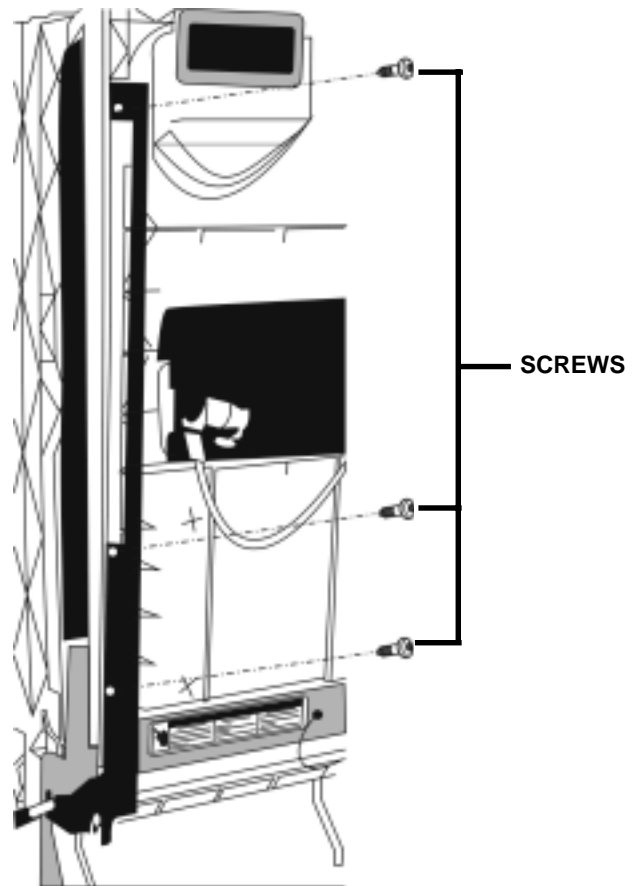

Fig. 3-31
4. Remove the three (3) screws securing the hinge plate to the front of the dishwasher inner door panel. (*Fig. 3-31*)